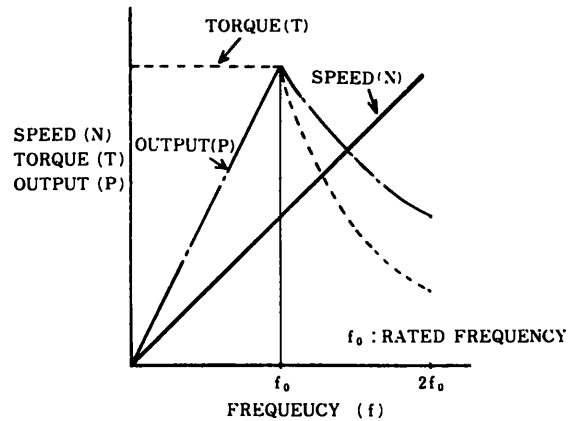

Fig. 1.1 Speed, Torque, and Output
From the characteristics of an inverter, the output voltage cannot be raised above the supply voltage, so that even when the frequency is raised above 50 or 60Hz, the output voltage remains unchanged. Therefore, as can be seen from Eq. (4), in this area, the torque decreases in inverse proportion to the square of frequency f , and as can be seen from Eq. (5), the output power drops in inverse proportion to the frequency. These relationships are roughly shown in Fig. 1.1.